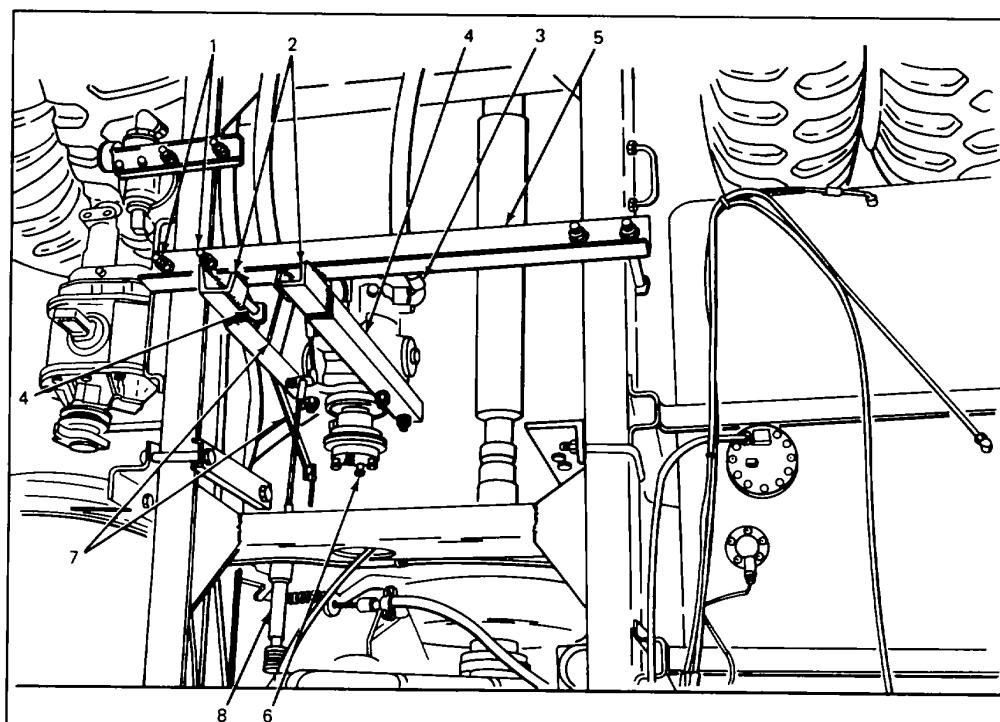
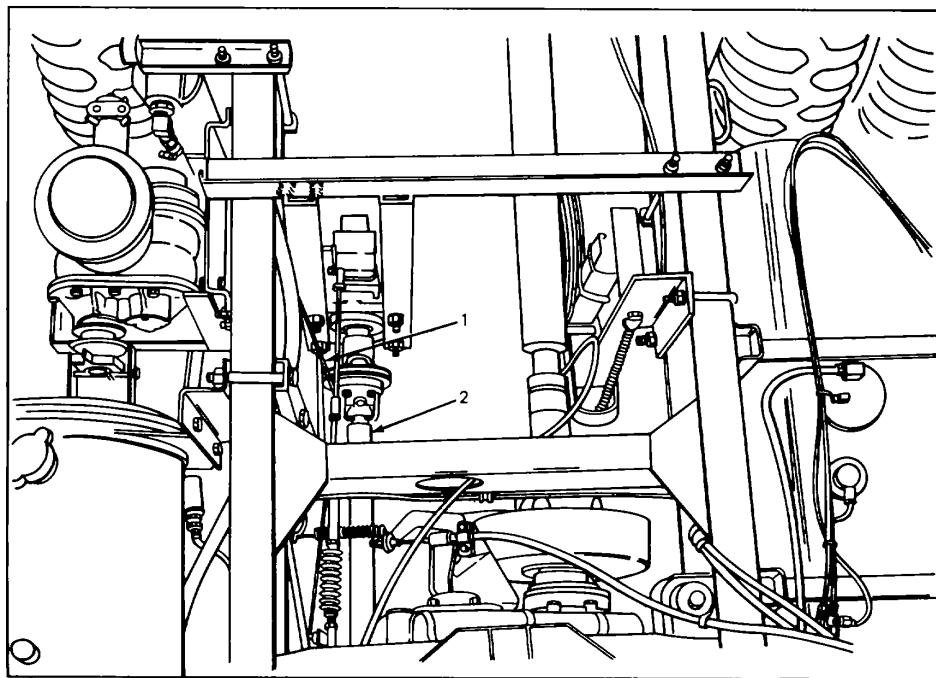
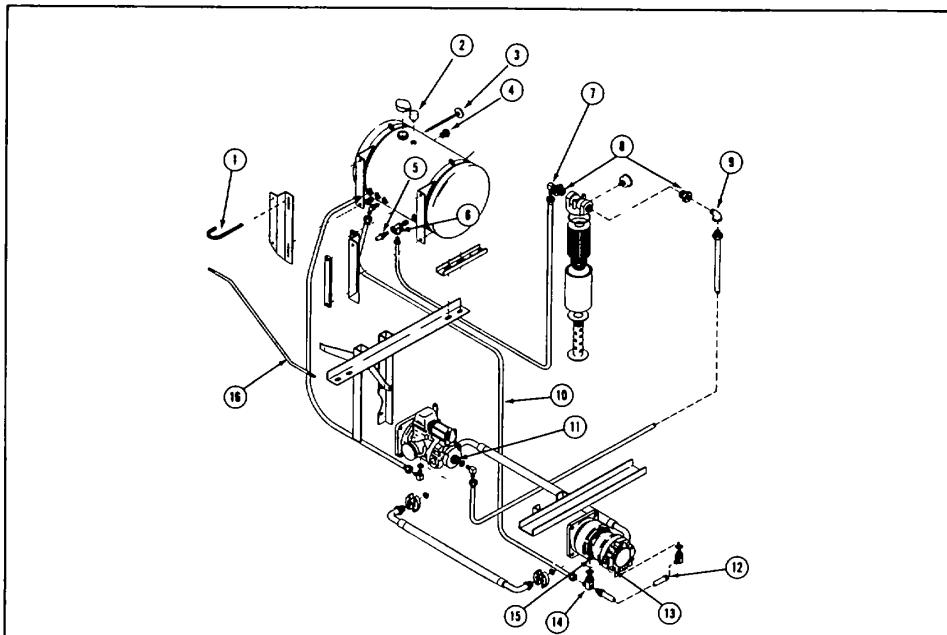

Figure 40
Figure 41
Figure 45
Attach upright supports to hydraulic pump with four (4) 3/4 X 2 bolts as seen in Fig. 40. Next attach cable supports to right hand pump support using two (2) 3/8 X 1 bolts. Assemble pump drive yoke and drive line pulley onto pump input shaft. Slip blower drive belt over pulley and allow to hang loose. Lower pump and supports into area where pump is to be mounted. Attach P.T.O. drive shaft, (Fig. 41) to pump input shaft with four (4) 3/8 X 1 bolts. Locate pump so as to give straightest drive line configuration while still clearing chassis members. With upright supports held vertical (using a carpenter's level) bring frame cross over support forward until it just touches the rear side of the upright supports. Weld uprights to cross over support. Next weld upright gussets in place as seen in Fig. 40. Install four (4) 1/2 X 12 tie down bolts and tighten securely. Finally install pump upright stabilizer rod as seen in F. 41 & 45. As a final check, observe P.T.O. output shaft and pump input shaft for excessive skew angle (i.e. shafts are not parallel when viewed from right side of chassis).
Connect one end of the 3/4" gray return hose to return port in the reservoir (Fig. 45) and lay hose along inside of right hand chassis frame channel.
Attach right and left hand high pressure hose to respective sides of hydraulic pump(Fig. 40). Remove dust covers from hydraulic motor ports and assemble 1/2" return hose between high pressure pilot relief port and case drain ports (Fig. 45 and 56) .Then attach 3/4" return hose to return tee on bottom of hydraulic motor (Figure 56).